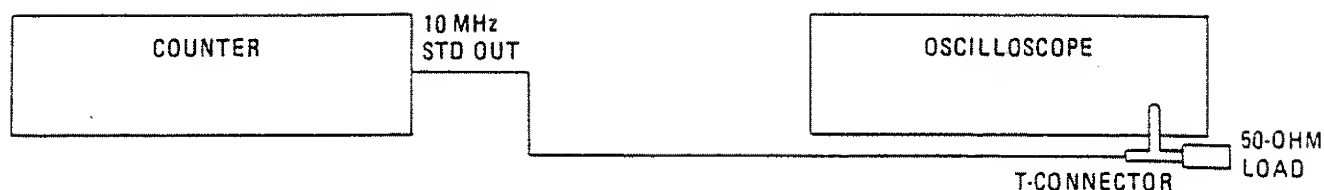

Fig. 6.12 Connections for 10 MHz Standard Output Level PVP
- (1) Connect the test equipment as shown in Fig. 6.12.